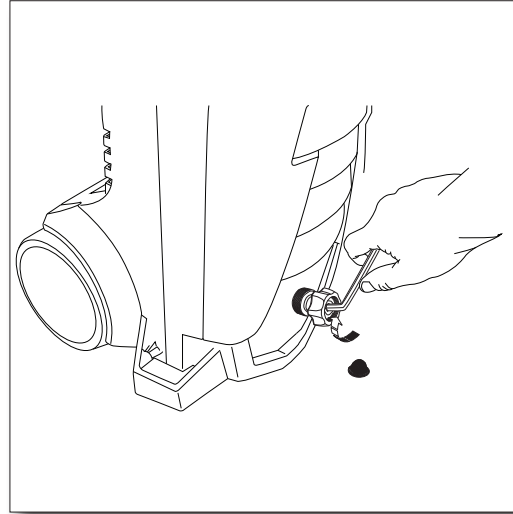

Fig. 15
- Remove washer filter, then using an 8mm or 5/16 allen wrench, tighten until snug. DO NOT over tighten. **(Fig. 15)**